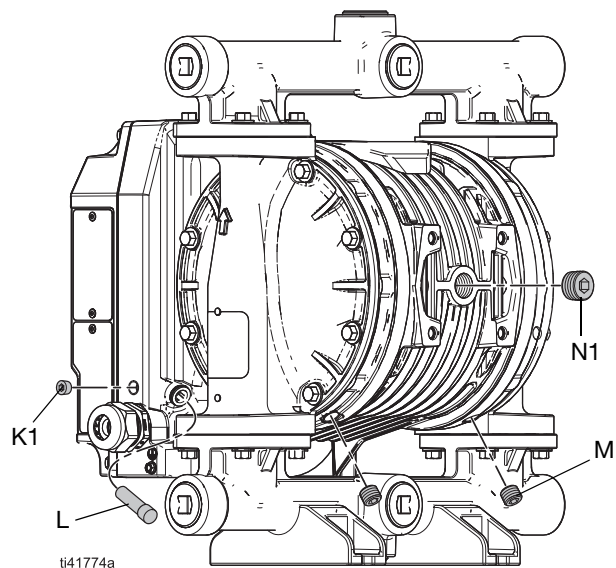

**FIG. 5: Remove Fasteners and Plate, Pumps for Use in Explosive Atmospheres or Hazardous (Classified) Locations only**
2. **Pumps for Use in Explosive Atmospheres or Hazardous (Classified) Locations only:** Remove the fasteners (P) and plate (R). See FIG. 5.